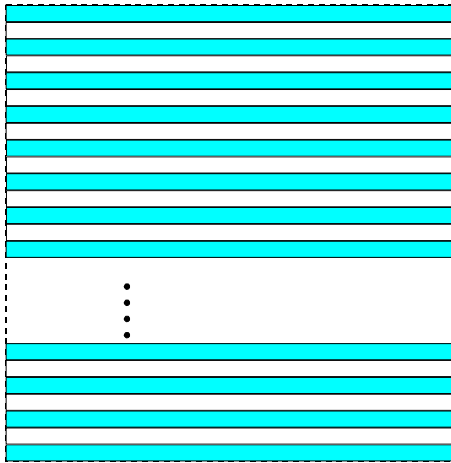

Fig. 111: Decimation of 2 (Mono Cameras)
- 2 for mono cameras: only every second row of the acquired frame will be transmitted out of the camera (Figure 111).